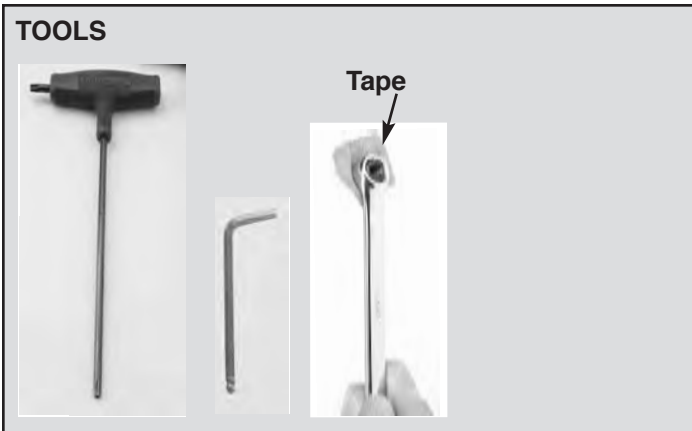

Figure 5
**TOOLS, Figure 5**
**Tape on end of Closed Box Wrench will hold nut (6) in place during installation.**